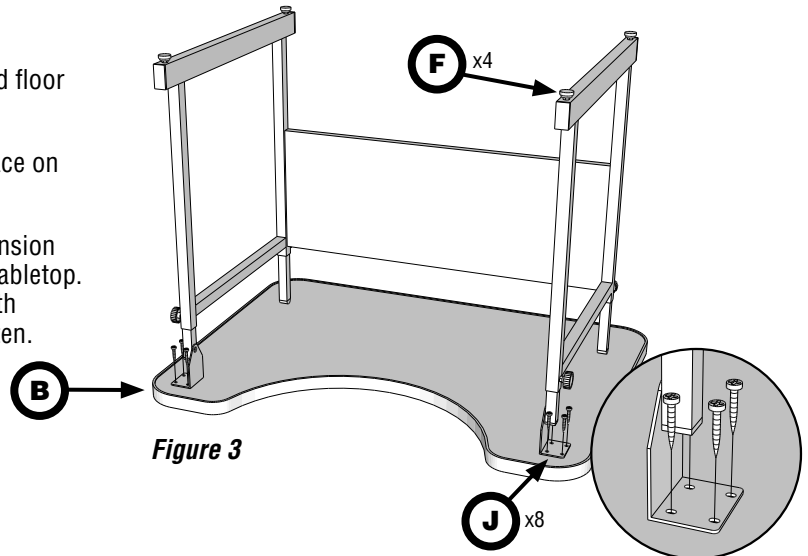
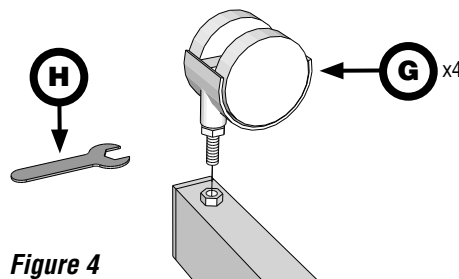

Figure 3
Figure 4
- 9** Carefully turn the assembled base upside down and place on tabletop (see **Figure 3**). This may require two people.
- 11** Floor glides (**F**) have been preinstalled at the factory (see **Figure 3**). If you wish to use casters (**G**) instead of floor glides, simply unscrew glides from each leg. Replace with casters using the included hex wrench (**H**) (see **Figure 4**). Note that casters will add about 1½" to the overall height of the table.